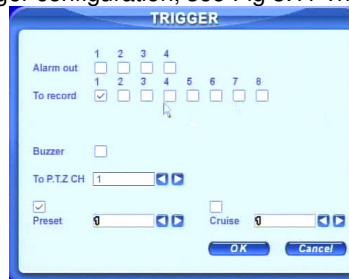

Fig 3.11 Trigger Setup
STEP3 Enter Trigger configuration, see Fig 3.11 Trigger Setup